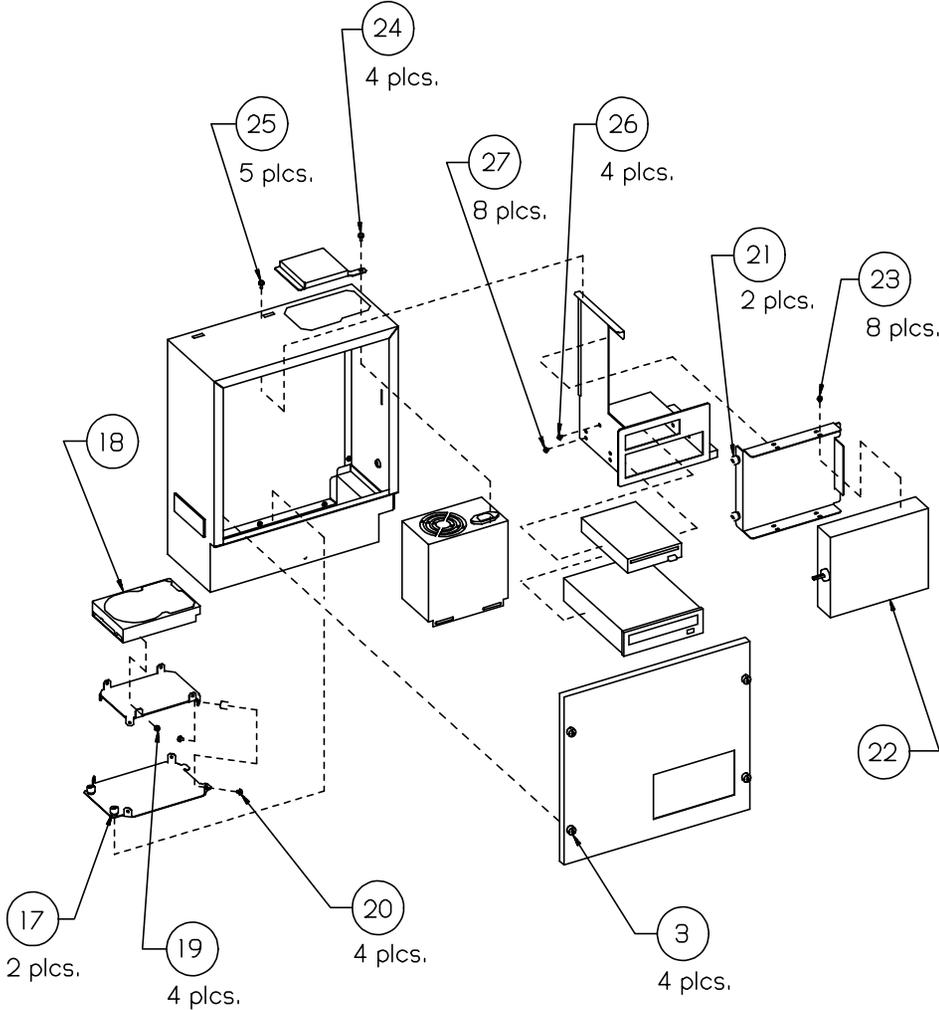

Figure 27B
3. Loosen the 4 thumb screws that attach the Enclosure Cover to the Front Enclosure Housing, then remove the Enclosure Cover. See Figure 27B.
17. Loosen the 2 thumb screws on the HDD Mtg. Bracket. See Figure 27B.
18. Remove the HDD Asm. from the Front Enclosure Housing. See Figure 27B.
19. To remove the individual HDD from the HD Mtg. Plate (if necessary): remove the 4 pan-head torx screws that mount the HDD to the HD Mtg. Plate, then remove the HDD. See Figure 27B.
20. To remove HD Mtg. Plate from the HD Mtg. Bracket (if necessary): remove the 4 pan-head torx screws that mount the HD Mtg. Plate to the HD Mtg. Bracket, then remove the HD Mtg. Plate from the HD Mtg. Bracket. See Figure 27B.
21. Loosen the 2 thumb screws on the Battery Mtg. Bracket. See Figure 27B.
22. Remove the UPS Battery (with its Mtg. Bracket) from the Front Enclosure Housing. See Figure 27B.
23. To remove the UPS Battery from its Mtg. Bracket (if necessary): remove the 8 pan-head torx screws that mount the Battery to its Mtg. Bracket, then remove the Battery. See Figure 27B.
24. Remove the 4 pan-head torx screws that attach the UPS Power Supply to the Front Enclosure Housing, then remove Power Supply PS4. Note that the Fan Guard, which mounts over the Power Supply (on top of the Front Enclosure Housing) becomes loose and thus is also removed with the Power Supply. See Figure 27B.
25. Remove the 5 pan-head torx screws that attach the Drives Mtg. Bracket to the Front Enclosure Housing, then remove the Drives Mtg. Bracket from the Front Enclosure Housing. See Figure 27B.
26. Remove the 4 pan-head torx screws that mount the FDD to the Drives Mtg. Bracket, then remove the FDD from the Drives Mtg. Bracket. See Figure 27B.
27. Remove the 8 pan-head torx screws that mount the CD-ROM Drive to the Drives Mtg. Bracket, then remove the CD-ROM Drive from the Drives Mtg. Bracket. See Figure 27B.